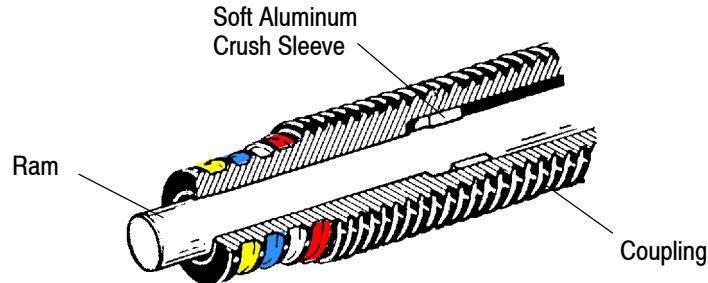

Figure 8
**DO NOT DROP A LOADED TOOL.** The momentum induced on the ram by the dropped tool will cause the ram to strike the percussion cap and fire the tool. If the tool is fired without a connector in it, the soft aluminum crush sleeve surrounding the ram will be crushed, jamming the ram, and rendering the tool inoperative. See Figure 8.